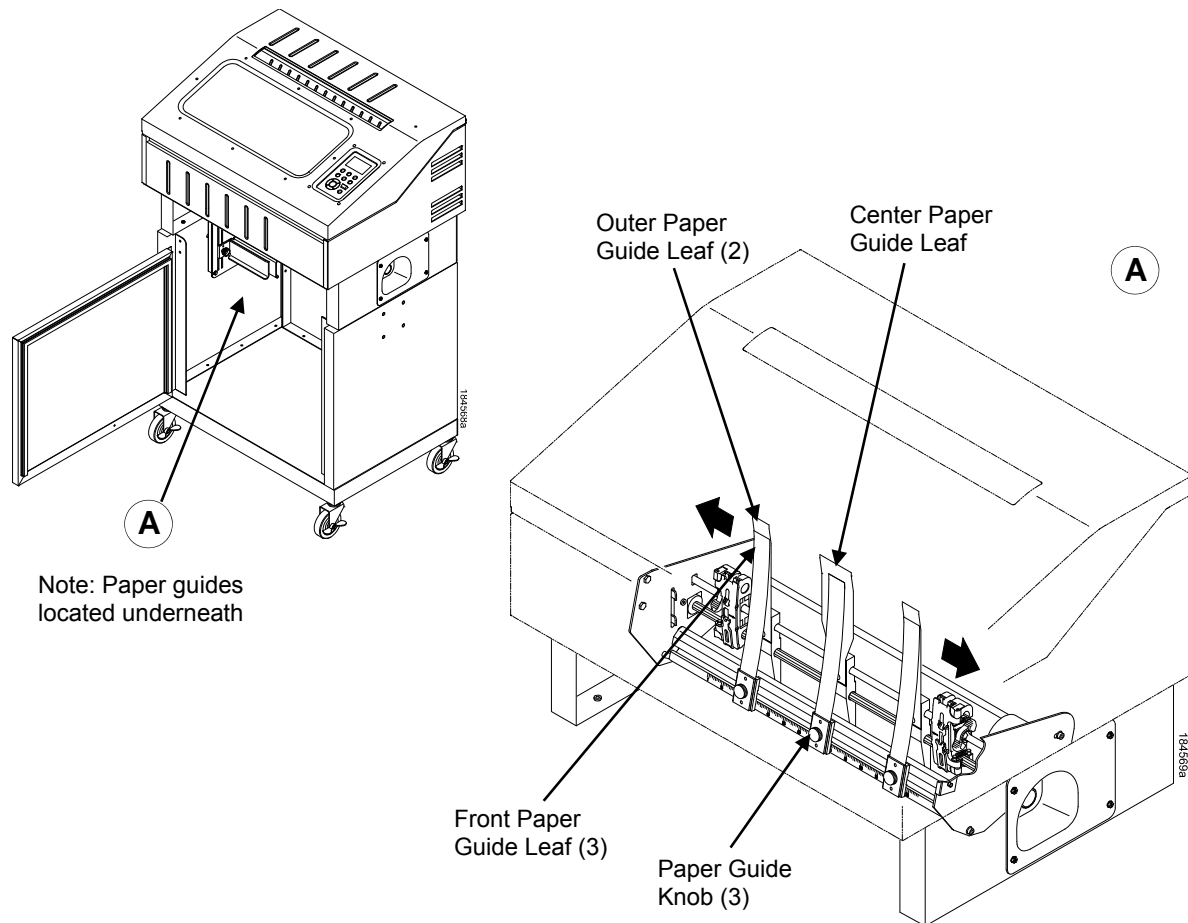

Figure 45 Adjusting the Paper Guides
1. Remove the left paper guide knob and the left, front paper guide leaf. (See Figure 45.)
7. Install the paper guide knobs and front paper guide leaves. (See Figure 45.)